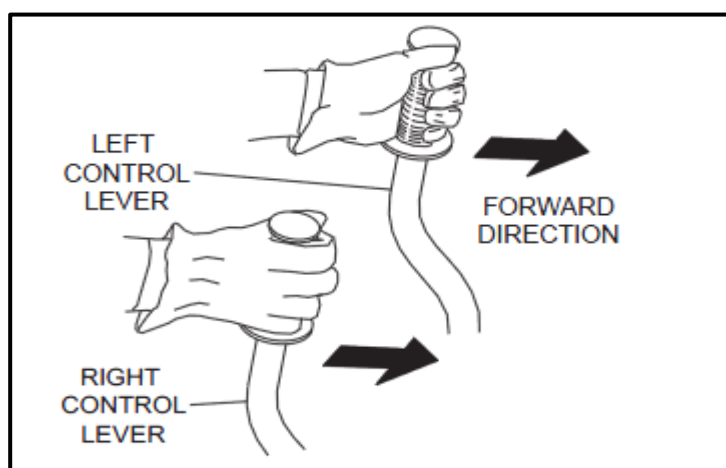

Figure 7.2
Two control levers located in the front of the operator's seat provide directional control for the trowel (fig. 7.2). Table 7.2 illustrates the various directional positions of the joysticks and their effect on the ride-on trowel.
- Push both the left and the right control levers forward (see fig. 7.2).